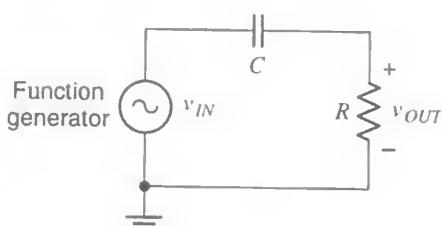

Fig. 5
Consider now the circuit of Fig. 5. Here the output is taken across the resistor. As before, at very low frequencies the capacitor will "act almost as an open circuit," which will virtually disconnect the output from the input. The output voltage can thus be expected to be very small at very low frequencies. At high frequencies, on the other hand, the capacitor will act almost as a short circuit, i.e. almost as if it were replaced by a direct connection from input to output, in which case the output voltage would be equal to the input voltage. Thus, for the circuit of Fig. 5, high-frequency input signals pass to the output, whereas low-frequency signals are rejected; for this reason, this circuit is said to be a *high-pass filter*. The voltage gain magnitude G can be defined again as above. When the frequency of the input is equal to f_c , where $f_c = 1/(2\pi RC)$, G takes the value of $1/(\sqrt{2}) \approx 0.707$, just as in the case of the low-pass filter. The quantity f_c is again called the cutoff frequency of the filter. At this frequency, the output leads the input by +45 degrees.
9. Now build the high-pass filter of Fig. 5. Use $R = 16 \text{ k}\Omega$ and $C = 10 \text{ nF}$ as before. Vary the frequency of the input signal over a wide range. Observe qualitatively the amplitude of the output. Is your observation what you expected, and does it justify the name "high-pass filter"?